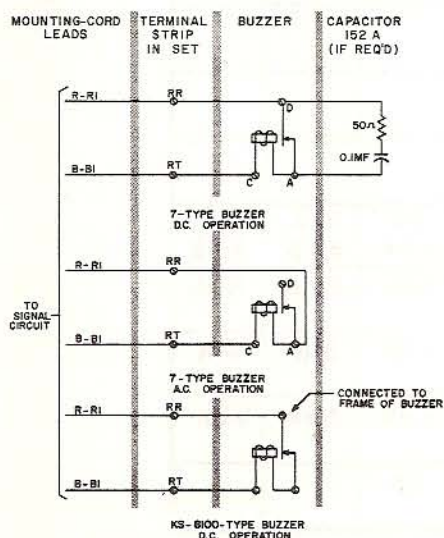
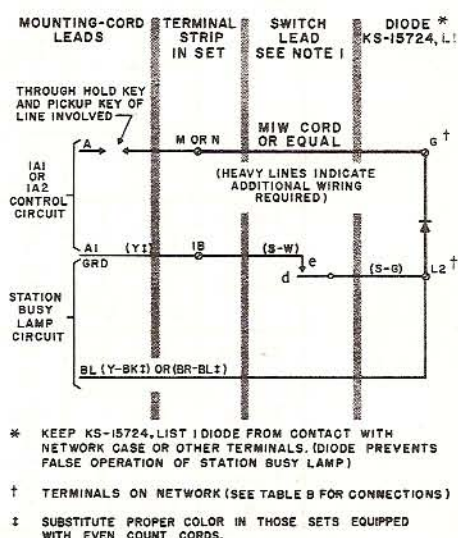

Fig. 1 — Buzzer Connections
Fig. 2 — Station Busy Lamp Connections with 1A1 or 1A2 Key Telephone System
- (a) Add connections for the KS-8100-type buzzer to Fig. 1.
1.05 Fig. 1 shows buzzer connections. When 7-type buzzer is used, the ringer must be removed and buzzer mounted on a 44B bracket. The H-type ringer provides a bracket for mounting KS-8100-type buzzer without removing the ringer from the set. Fig. 2 shows station busy lamp connections. Note addition of a KS-15724, L1 diode and a strap.